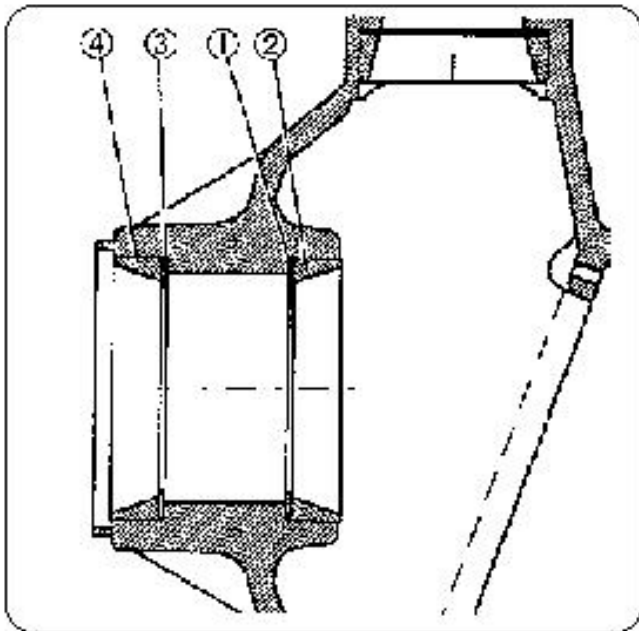

Figure 18
Fit the shims (pos. 1) (recovered during dismantling) in the bearing seat for an initial adjustment. Fit the bearing outer race (pos. 2) in the bearing seat (Figure 18).
Fit the shims (pos. 3) (recovered during dismantling) in the second bearing seat for an initial adjustment. Press the bearing outer race (pos. 4) into the bearing seat (Figure 18).